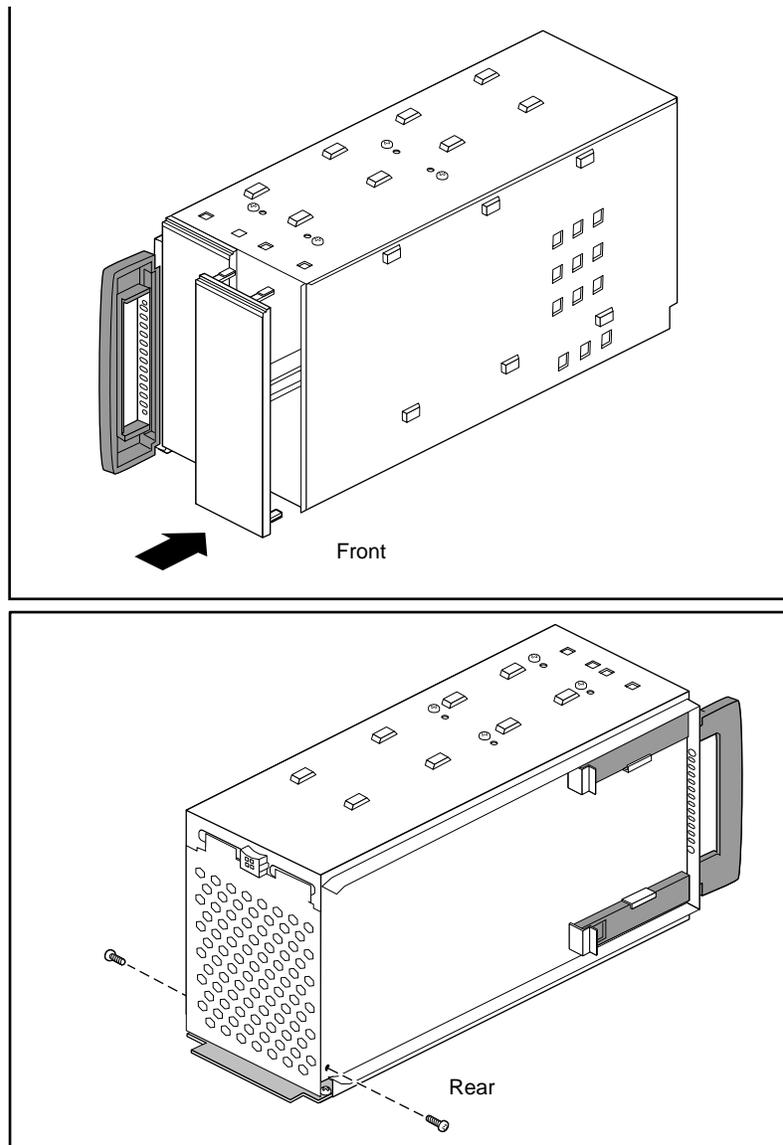

Figure 6-9 Replacing the Front Blanking Plate and Rear Access Plate
6. Replace the blanking and access plates on the peripheral carrier. See Figure 6-9.